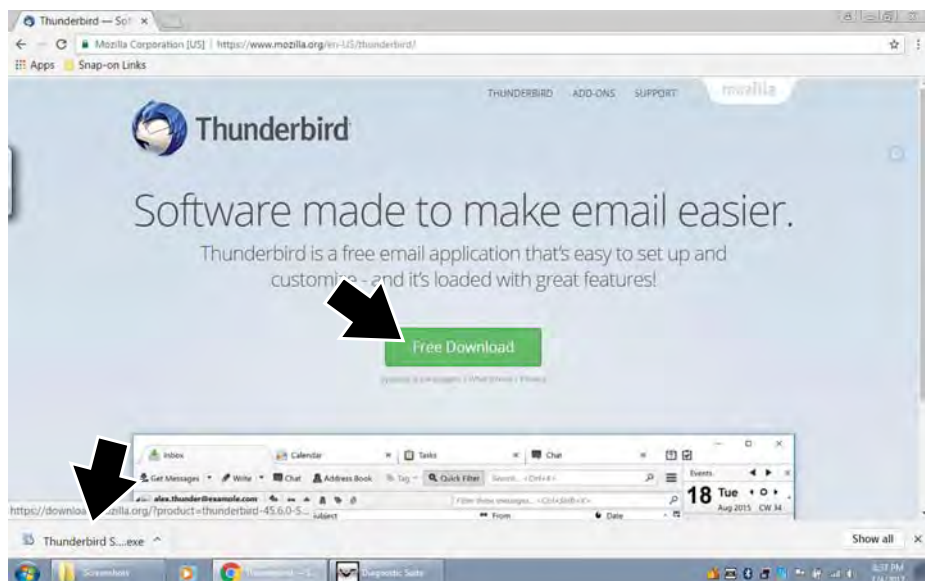

Figure 11-9
- 1. Download an email client (e.g. Mozilla Thunderbird) (Figure 11-9).